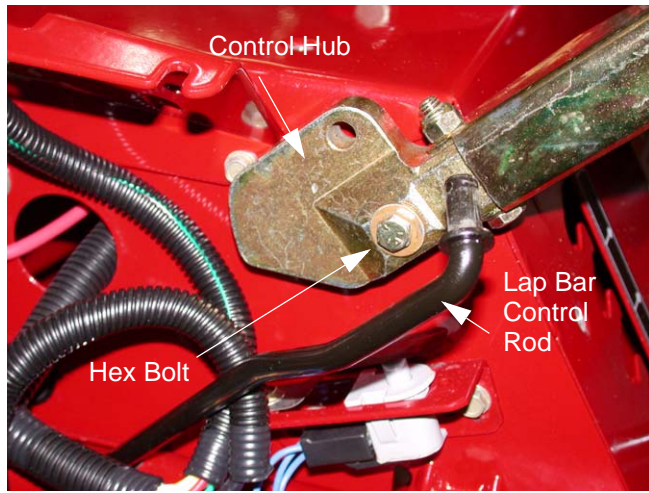

Figure 16.6
- 16.6. While rotating the control hub forward the lapbar control rod can be disconnected and removed. See Figure 16.6.
- 16.7. Using a socket, remove the hex bolt securing the control hub to the control shaft. See Figure 16.6.